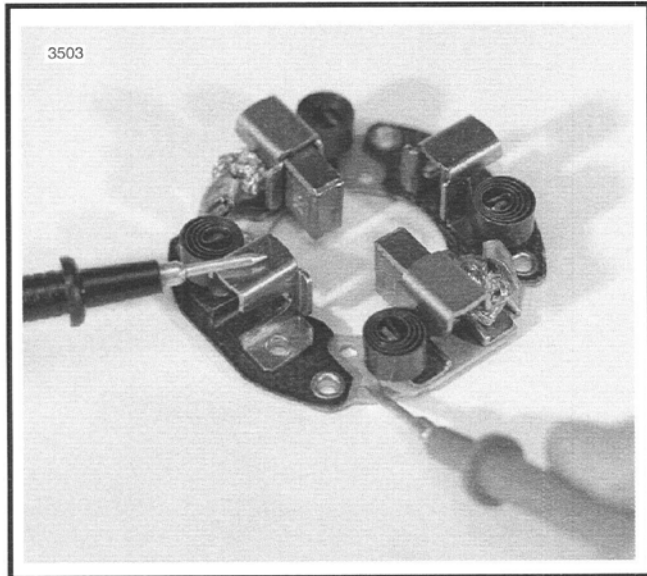

Figure 80. Brush Holder Insulation Test
15. See Figure 80. Test BRUSH HOLDER INSULATION with an ohmmeter or continuity tester. Touch one probe to holder plate and the other probe to each of the positive (insulated) brush holders. There should be no continuity (infinite ohms). If there is continuity at either brush holder, the brush holder assembly should be replaced. Touch one probe to the non-insulated brush holders and the other probe to the holder plate. If you measure any resistance, the brush holder must be replaced.